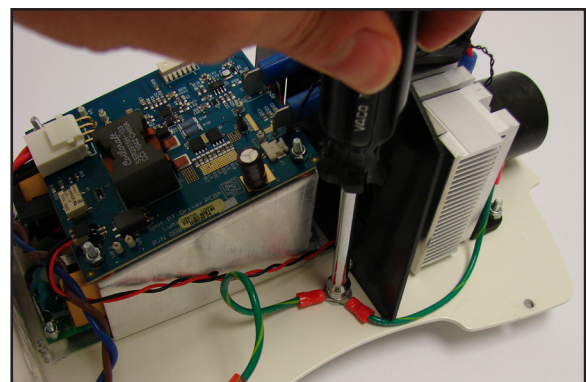

Figure 11-10
7. To remove the AC harness, disconnect the AC harness from the power supply board. To remove the AC harness ground wire, use a 7 mm nut driver to remove the nut that attached the wire to the back plate to release the ground wire (Refer to Figure 11-10).
6. Use a 5.5mm nut driver to remove the nut that attached the LED Ground Harness to the back plate to release the harness (Refer to Figure 11-10 ).